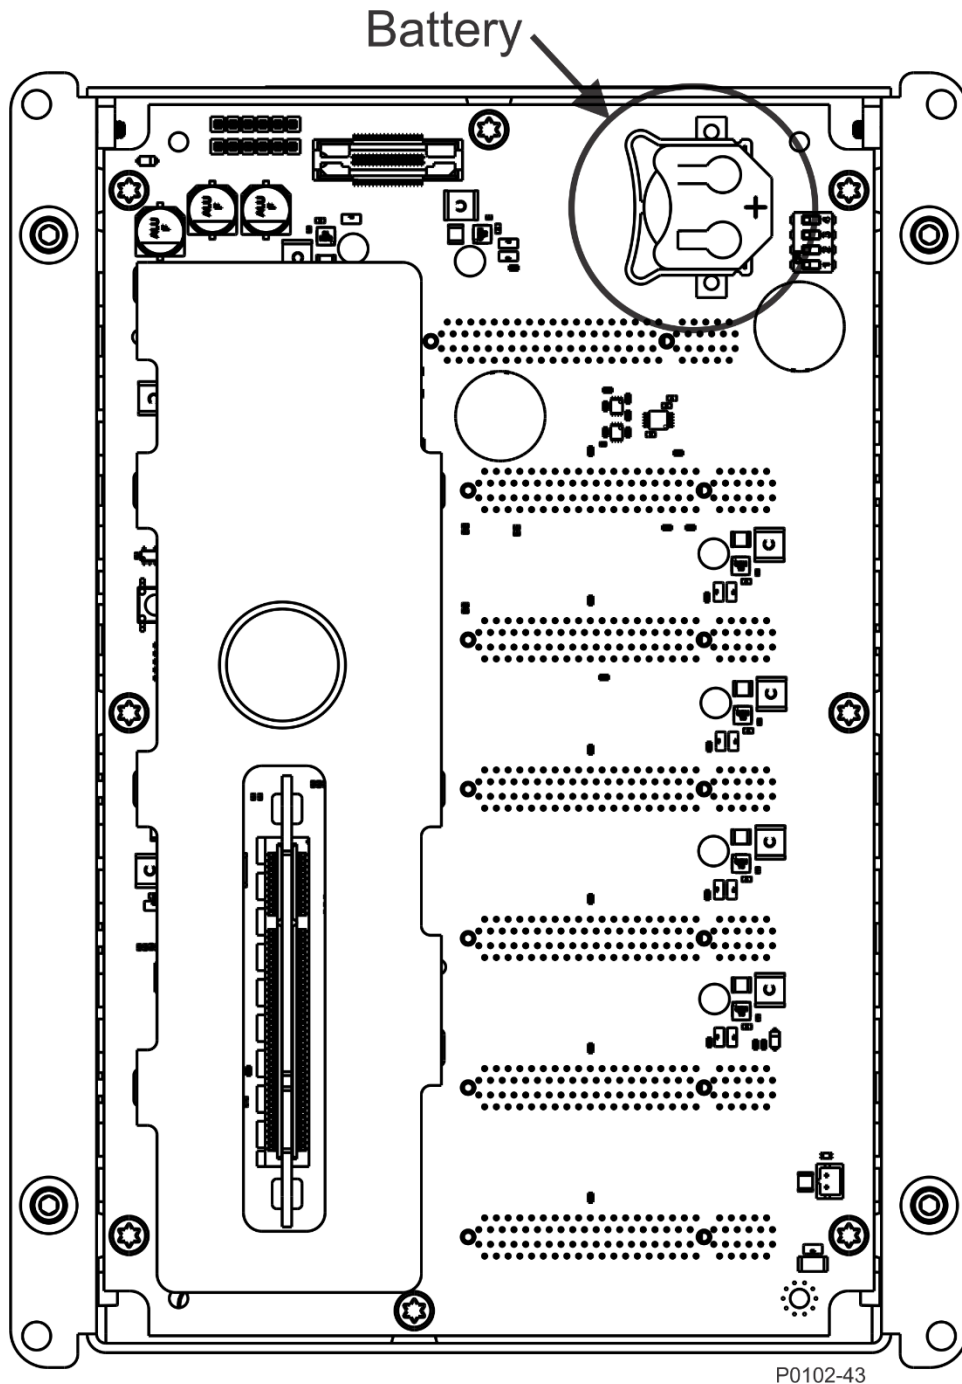

Figure 12-3. Battery Location on Motherboard
- Step 3: Locate the battery holder/tray and battery on the motherboard (Figure 12-3). Remove the battery from the holder/tray. Consult your local ordinance for proper battery disposal.